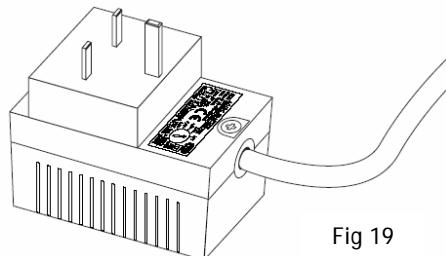

Fig 19
- Short roof terminal part number A9266100 Fig 19 part B
- Chimney closure plate part number A 9240000 Fig 19 part A
- Two stainless steel tubes one 100 mm - length 500 mm and one 150 mm - length 500 mm part number A 9273900 Fig 19 part E and F
- 1) Place the aluminium closure plate (A) onto the chimney. Permanently attach and make airtight.
- 2) Pull the liner (C) through the chimney.
- 5) Fixing the chimney sealing plate (D) and place the 150 mm grommet into the hole of the sealing plate.
- 7) Slide pipe (E) 150mm length 500mm into the sealing plate. Slide this pipe so that you have enough space later on to assemble the liner.